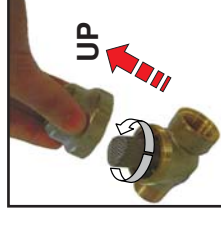

Fig. 4
12. Clean solid filters weekly (I & J). Open the filter by unscrewing it in an anticlockwise direction (Fig.4).